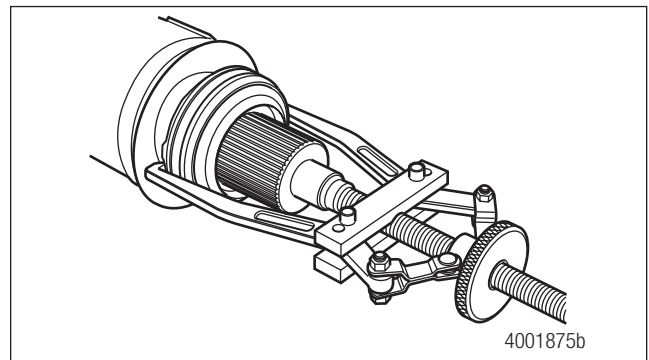

Figure 10.14
3. Use a puller to remove the bearing assembly from the coupling shaft. Follow the puller tool manufacturer's instructions. Discard the center bearing. Figure 10.14.